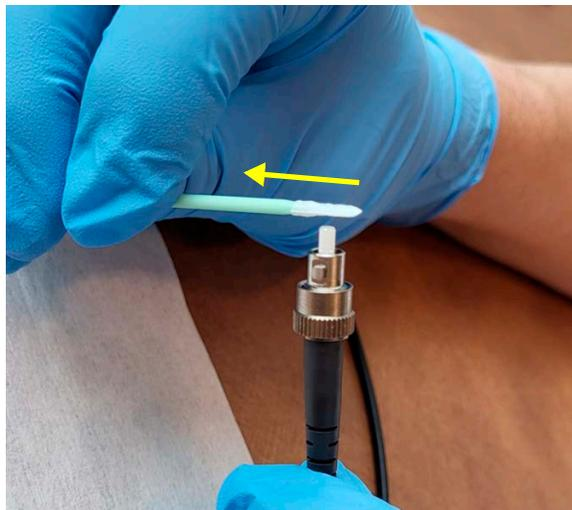

Figure 8-49. Set the Swab in Position on the Fiber Optic Surface
3. Hold the fiber surface vertically, and drag the swab once across the fiber optic surface. See Figure 8-49. **Do not** move the swab back and forth. **Do not** re-use the swab. Use a new, clean swab each time for the swipe.